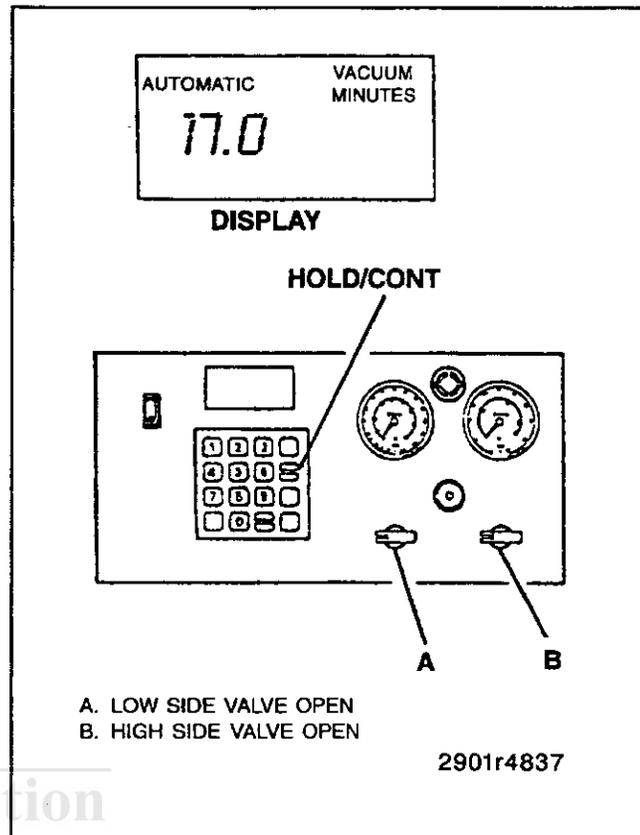

Figure 18—System Evacuation
4. At approximately the 17 minute mark on the display, (pump has run for 3 minutes) press “HOLD/CONT” key to stop vacuum pump (figure 18).